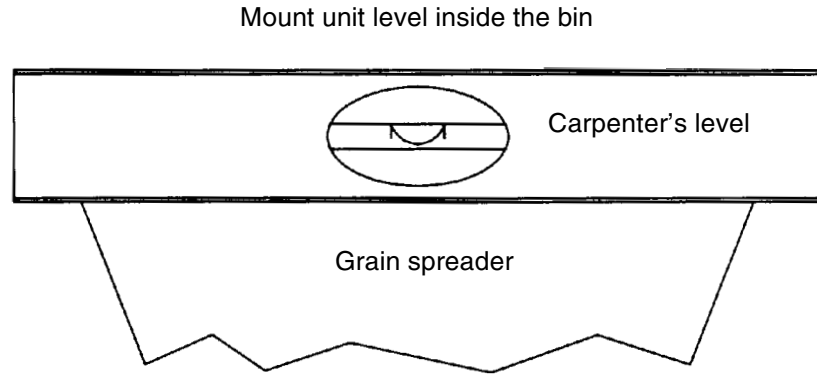

Figure 5: Mount spreader and check with level.
4. Once unit is installed, use a carpenter's level across the top of the spreader cone to make sure it is level in all directions (Figure 5).